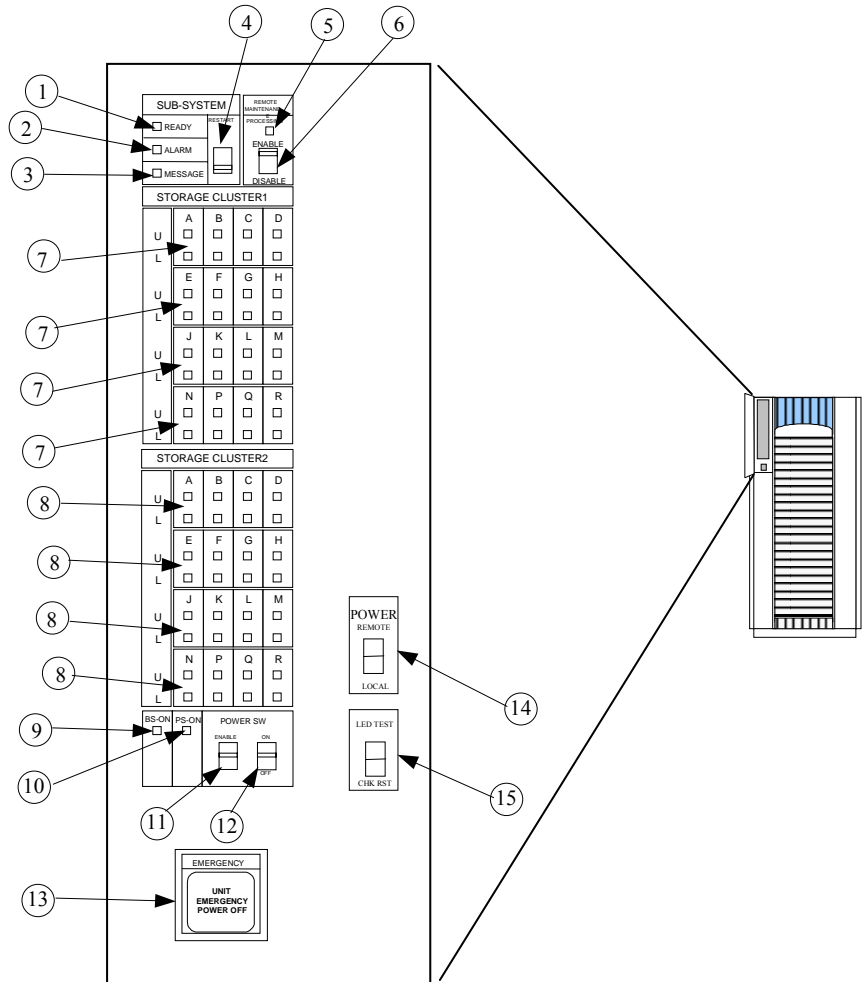

Figure 10. Control panel
Figure 10 and Table 11 on page 60 show the control panel and its functions, respectively.
1. Move the ENABLE/DISABLE switch to the ENABLE position. Move the PWR ON/OFF switch to the PWR ON position. (Figure 10 on page 59, item 11/12)
The BS-ON (Figure 10 on page 59, item 9) will turn amber and the PS ON LED (Figure 10 on page 59, item 10) will turn green.
The CHANNEL LED (Figure 10 on page 59, item 7) will light green for every adapter installed.
The MESSAGE LED (Figure 10 on page 59, item 3) may turn amber, if your disk array is not configured for automatic maintenance notification, signifying a SIM was generated (because the disk array went down unexpectedly).
Finally, the READY LED (Figure 10 on page 59, item 1) will light green signifying the system is ready. Powering on the disk array may take up to 10 minutes, depending on the number of disks installed in the disk array. Power-on is complete only when the READY LED turns green.
The disk array will automatically restart and return to service when power is restored. To enable this feature, place the ENABLE/DISABLE switch in the ENABLE position and the PWR ON/OFF switch in the PWR ON position. (Figure 10 on page 59, item 11/12). When power is restored, your disk array will restart and the following LED power sequence will occur:
Finally, the READY LED (Figure 10 on page 59, item 1) will light green when the system is ready, which may take up to 10 minutes, depending on the number of disks installed in the disk array.